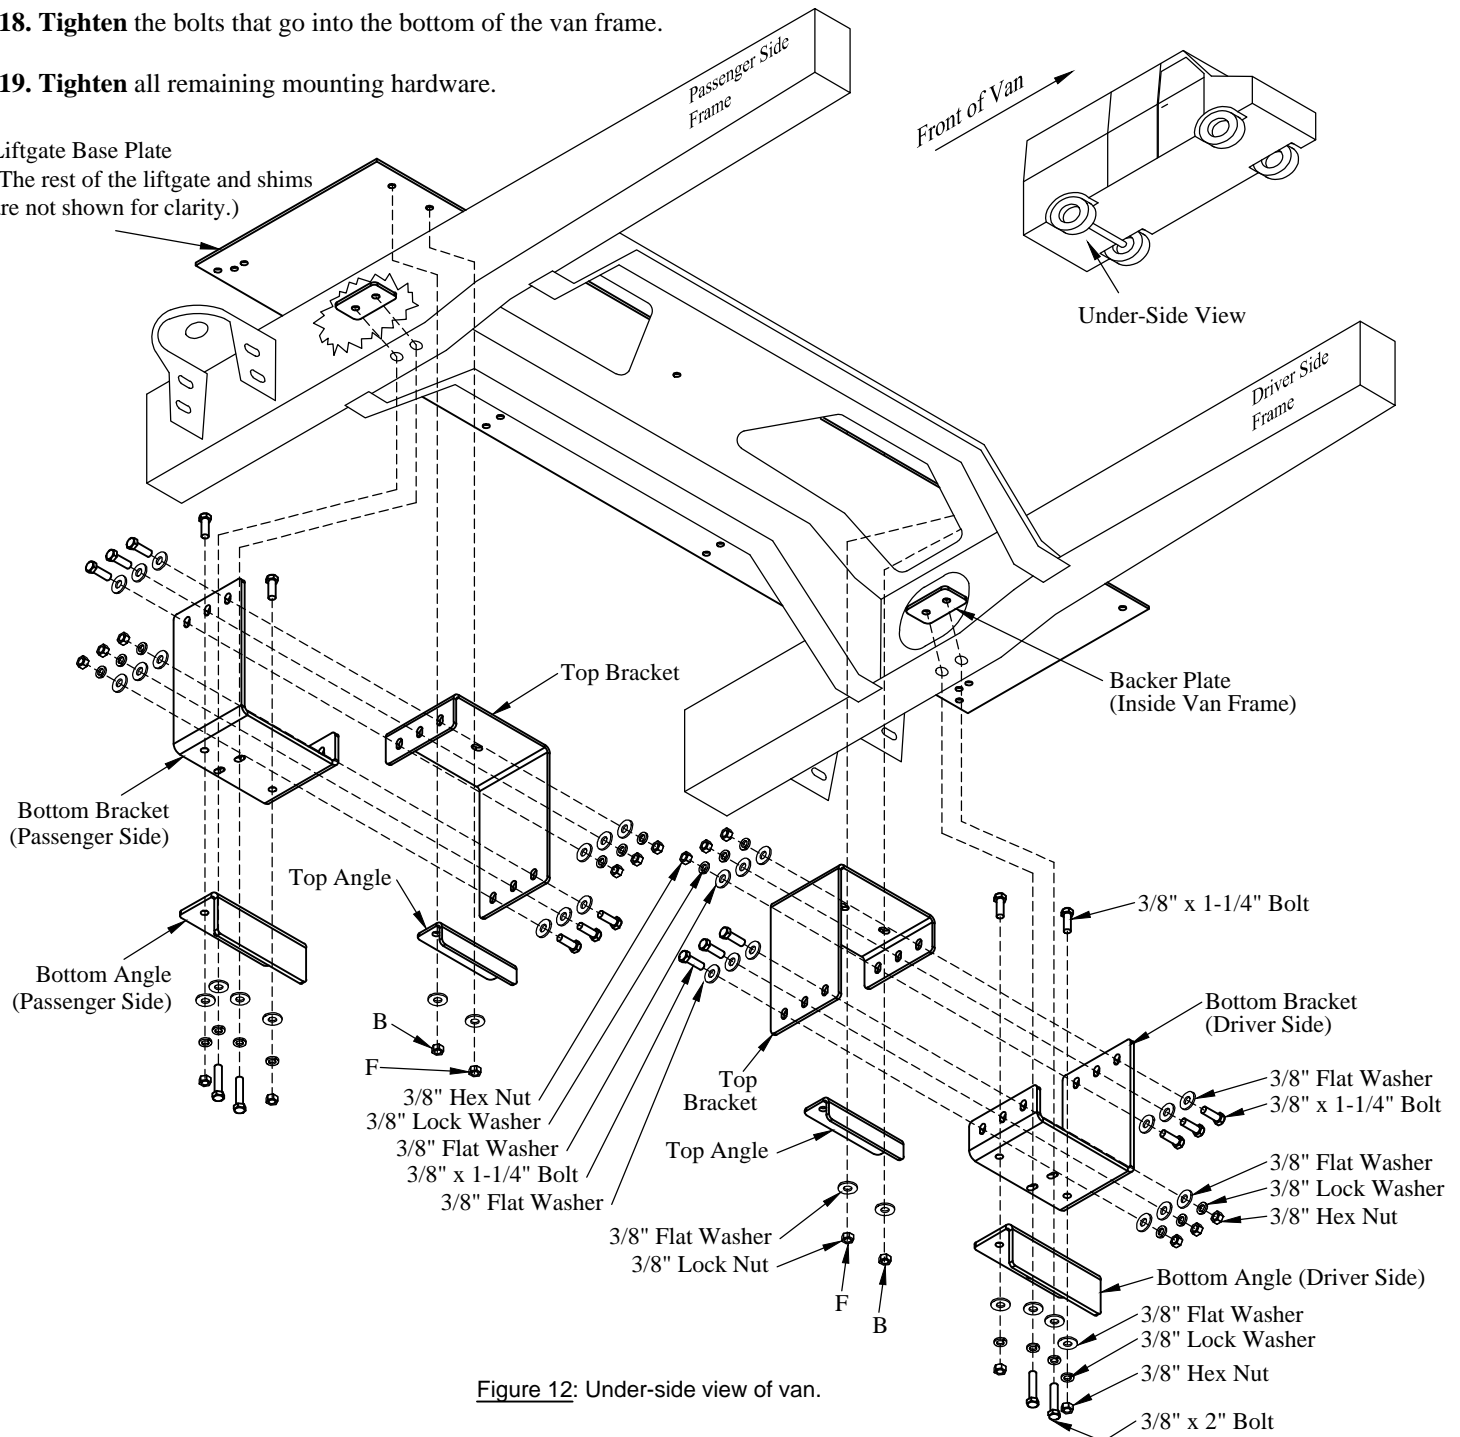

Figure 12: Under-side view of van.
13. **Install** a top bracket and top angle on each "F" and "B" locations (Figure 12). Do not tighten at this time.
14. **Attach** bottom brackets to top brackets using supplied 3/8" bolts, flat washers, lock washers and nuts (Figure 12). Do not tighten at this time.
16. **Install** the bottom brackets to the bottom of the van frame (Figure 12). Use backer plate inside the van frame. There is a driver side and passenger side version of these parts. Do not tighten at this time.